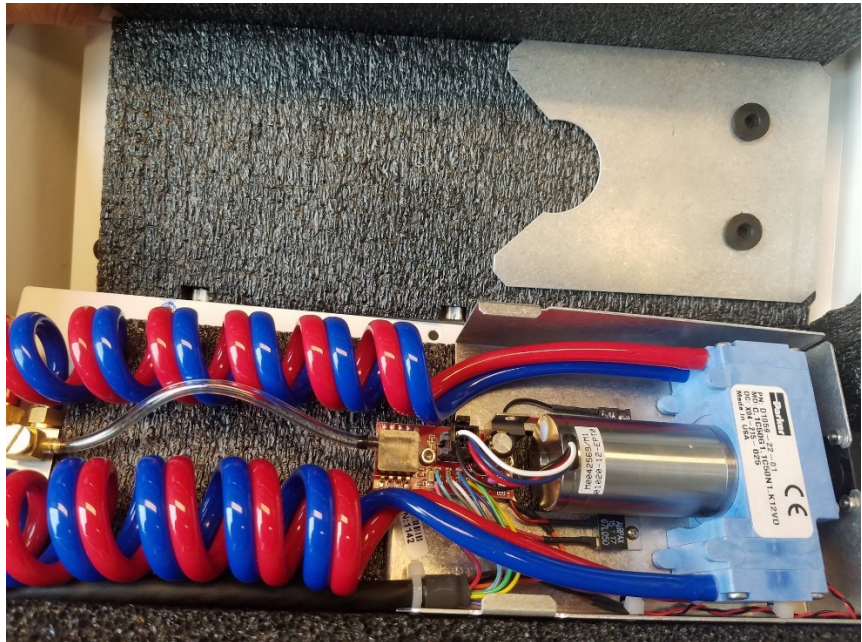

FIGURE J-12. Proper placement of AP200 pump (SN 33240) back into foam of pump enclosure.
4. Place the pump assembly back into the foam of the pump enclosure (FIGURE J-12).